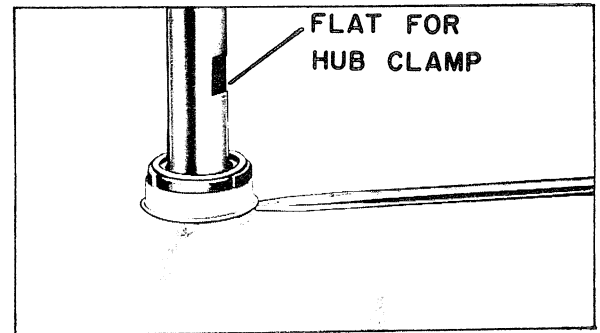

Figure 105
4. Remove the drive tube seal mating ring and its rubber insert; then pry the seal out of the gear case cover with a screwdriver, *Figure 105*.